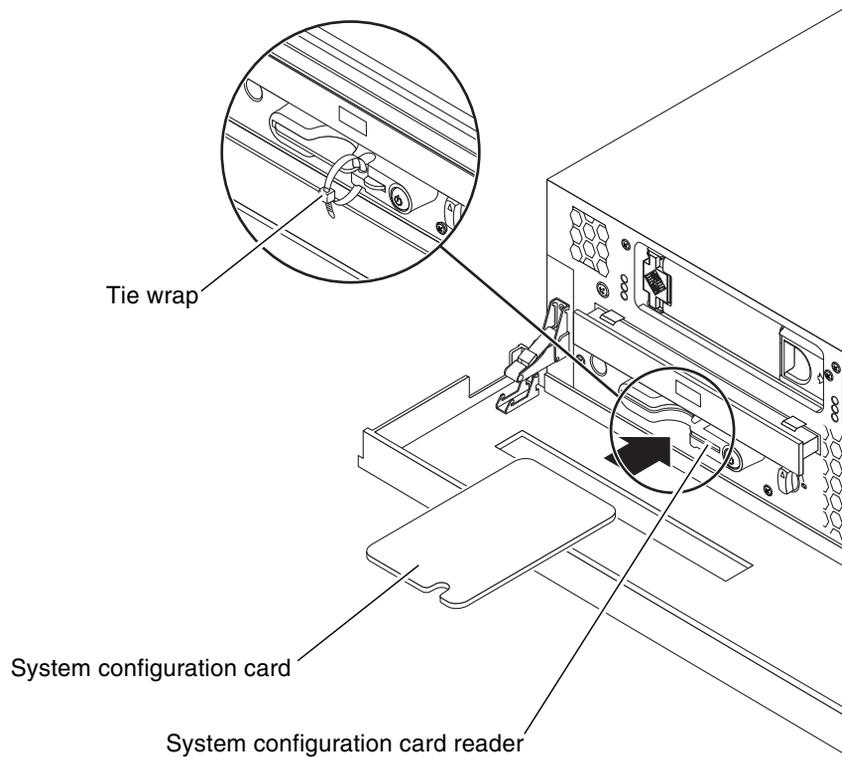

FIGURE 3-4 Removing and Inserting a System Configuration Card
3. Cut and remove the tie wrap that secures the system configuration card, and remove the card from the system configuration card reader (FIGURE 3-4).
1. Insert the system configuration card into the system configuration card reader (FIGURE 3-4).
Note – By replacing the tie wrap, you ensure that the system configuration card is properly seated in the card reader (see FIGURE 3-4). If the card projects out of the card reader, the system does not boot properly. The tie wrap discourages accidental or unintentional removal of the system configuration card.